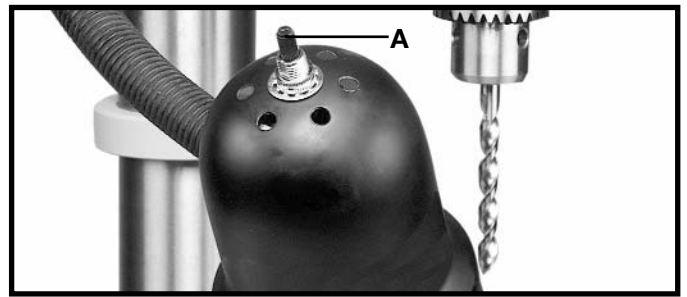

Fig. 18A
The flexible lamp operates independently of the drill press. To turn the lamp “ON” and “OFF”, rotate switch (A) Fig. 18A.